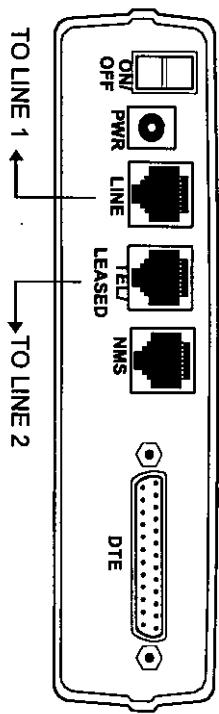

Figure 3. External Modem Connections
2. Turn the modem so you have access to the connectors at the back (Figure 3).